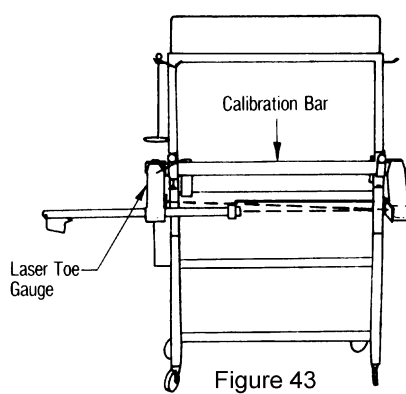

Figure 43
- 2) Mount the Left Toe Gauge and Left Retro-screen to the machined surfaces on the side of the Calibration Bar. (See Fig. 43)